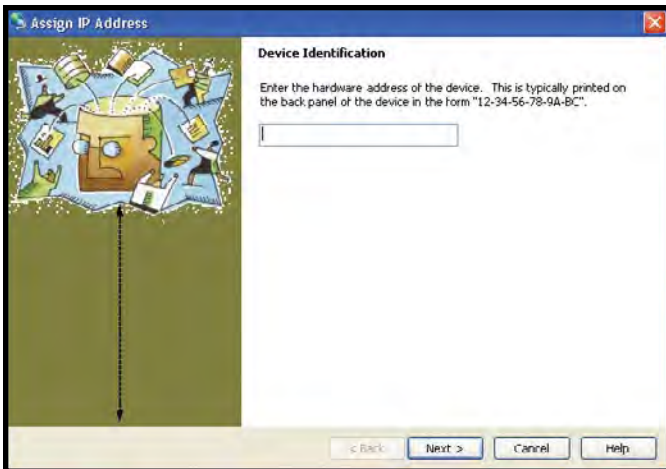

Figure 6. Assign IP Address, Device Identification Window
5. Click on the "Assign IP" button located at the top of the window. The "Assign IP Address" window will open (see Figure 6).